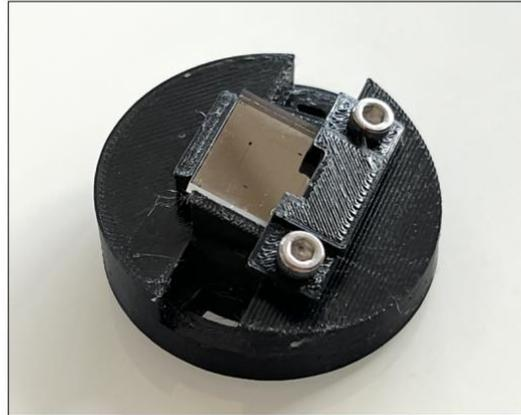

Figure 7. Star'Ex GEN2 slit mounted in adjustment support #3.
Step 1: Mount the GEN2 slit onto support #3, which centers the hole in the spectrograph's field of view (see Figure 7 and the appendix of this document). Then, place the assembly into the designated front slot in Star'Ex.